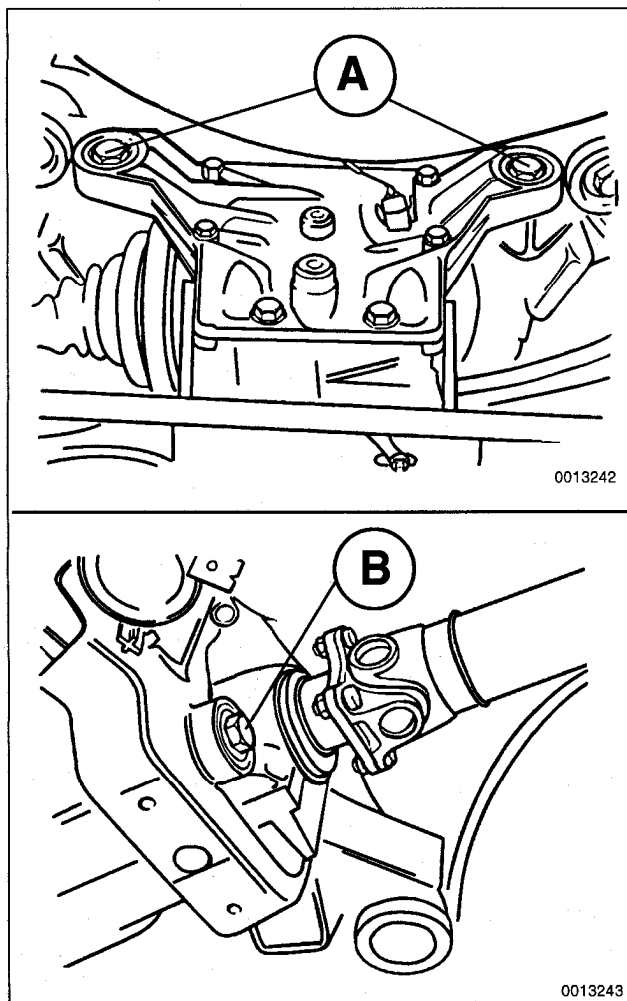

**Fig. 5.** Final drive to final drive carrier rear (A) and front mounting bolts (B).
6. Support final drive with transmission jack. Remove mounting bolts at front and rear. See Fig. 5.